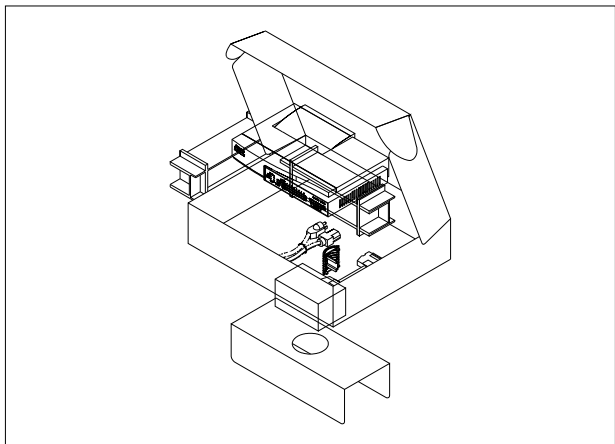

Figure 2-1 Get the hub and power adapter
2.1.1 Take out the hub and the power adapter from the packing box, as shown in Figure 2-1.